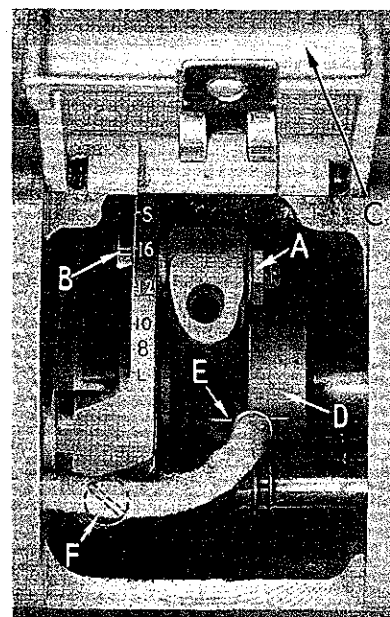

Fig. 10
NOTE: The needle feed and the drop feed should move together. If not loosen nut (A, Fig. 10) and reposition connecting stud (B) forward or backward to a point where they are synchronized. Tighten nut (A) securely.